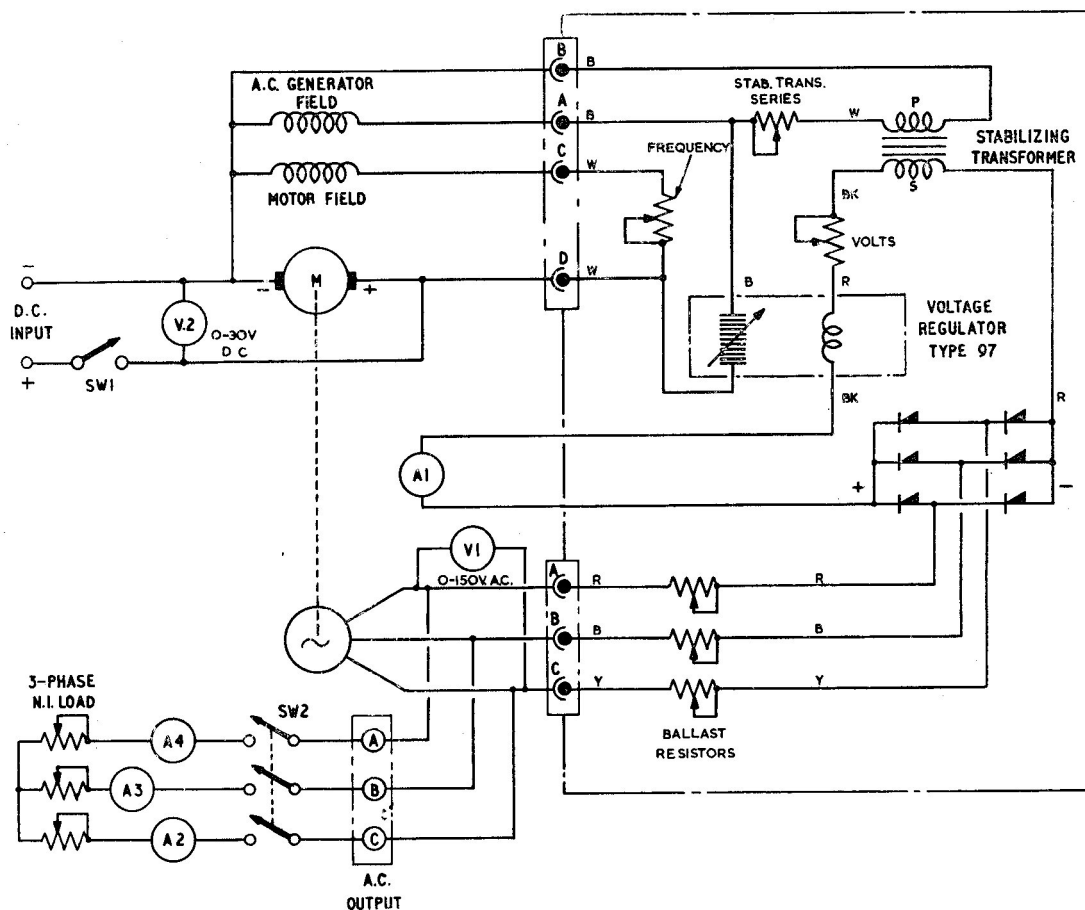

Fig. 3. Test circuit diagram
5. The regulator should be fitted in a control panel, Type 34, and tested in conjunction with an inverter, Type 102A. The connections are shown in the test circuit diagram in fig. 3. The stabilizing transformer must be in circuit for all tests.